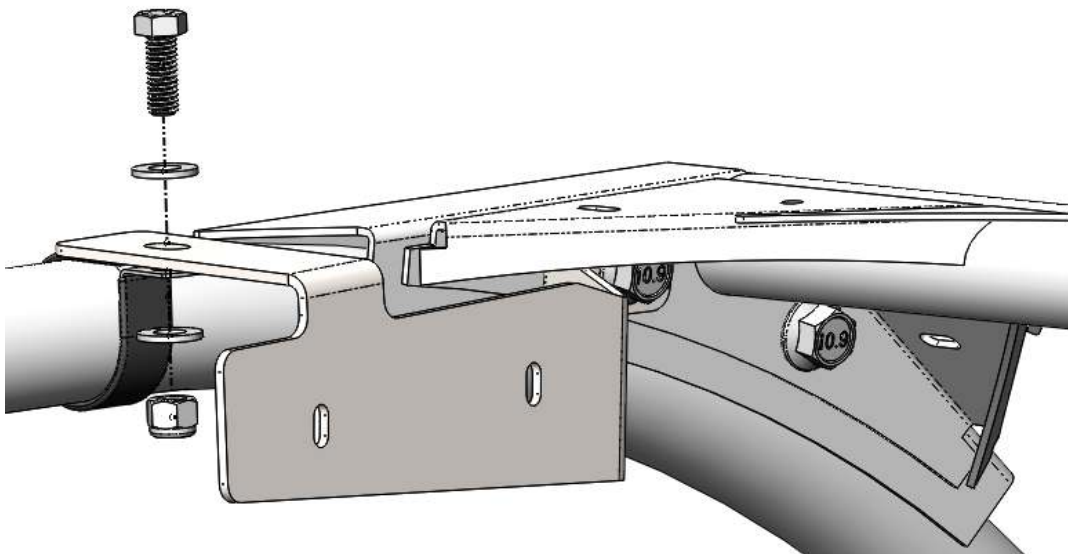

Figure 5: Hardware for mounting the loop clamps to the brackets.
4. Use the supplied $\frac{3}{8}$ "-16 x 1" bolts, washers, and nylock nuts to secure the loop clamp to the mounting bracket. Snugly tighten both the loop clamp bolt and the front cross member bolt, waiting to fully tighten them until the *Audio Mini* is in the final desired position. See Figure 5.